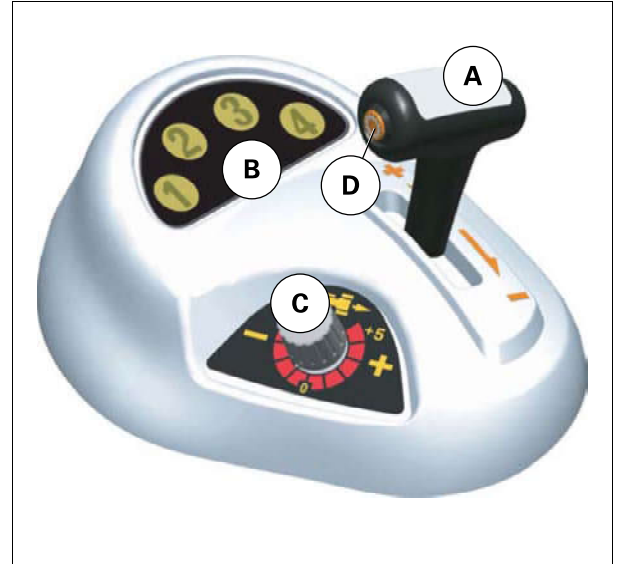

Fig. 3.
Transmission lever (A) *fig. 3* controls all the ratios. The selected range (1, 2, 3 or 4) is displayed on screen (B) *fig. 3*. The selected Powershift ratio (A, B, C or D) is displayed on the instrument panel (*see §3.1.2*).
The Powershift ratio is changed by operating lever (A) *fig. 3* or the shuttle lever (*see §3.3.5*). Shifting can be carried out in pulses or by holding the lever in position and changing ratios one after the other.
Push lever (A) forwards *fig. 3* to shift to the higher ratio, pull back on lever (A) *fig. 3* to shift to the lower ratio.
Pull back on lever (A) *fig. 3* to shift to the higher ratio, push lever (A) *fig. 3* forwards to shift to the lower ratio.
It may be necessary to place the gearbox in neutral (disengage the transmission), so that, for example, the tractor can be towed. Press button (D) *fig. 3* until display (B) *fig. 3* goes out. To re-engage the transmission, *see §3.3.2*.